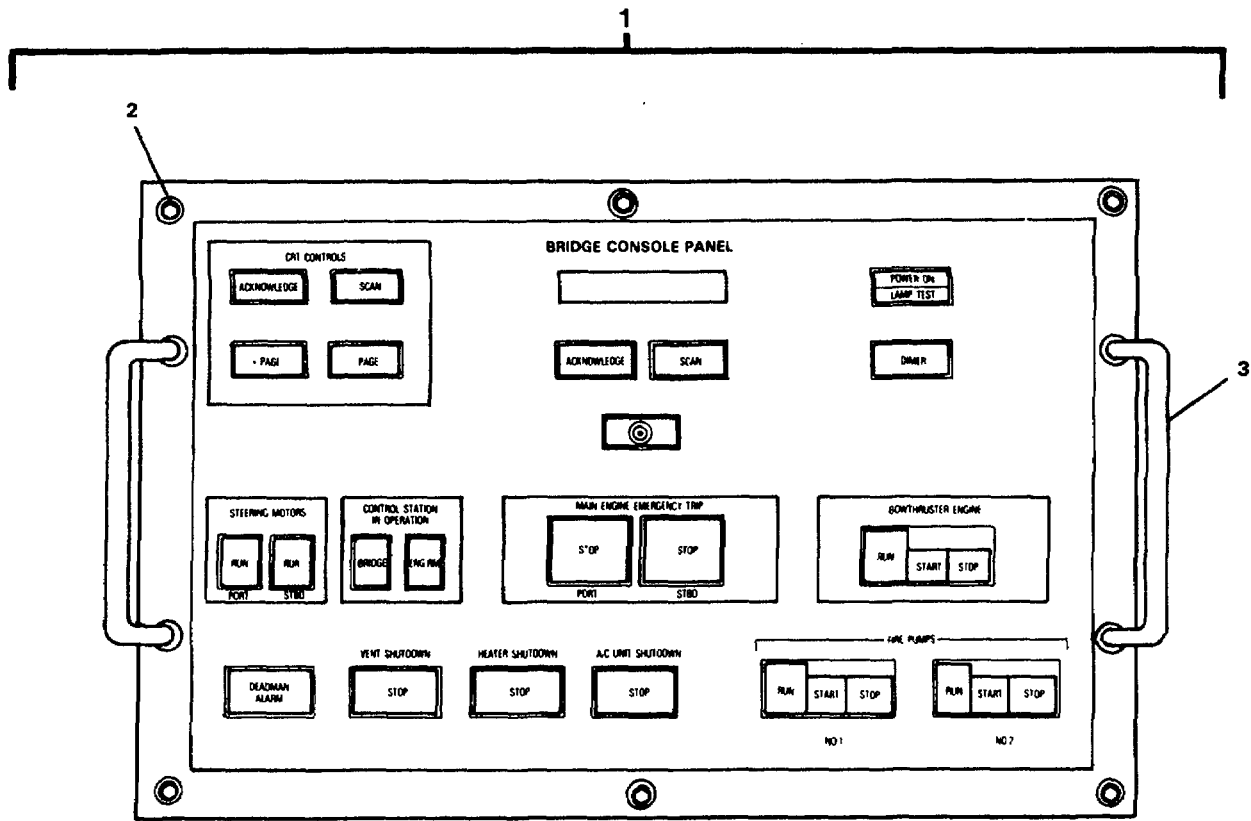

FIGURE 3-114. Machinery Plant Monitoring and Alarm System Pilothouse.
- d. Remove tag and connect electrical power cable (15) to pressure switch (16).
- e. Remove tag and connect electrical power cable (13) to liquid level switch (14).
- f. Remove tag and connect electrical power cable (11) to liquid level switch (12).
- g. Remove tag and connect electrical power cable (9) to liquid level switch (10).
- i. Remove tags and connect electrical power cables to terminal board (5).
- j. Remove tags and connect electrical power cables to terminal switches (3).
- k. Close cover (1) and tighten captive screws (2).
**3-127. Replace/Repair Bridge Panel Assembly. (Figure 3-114)**